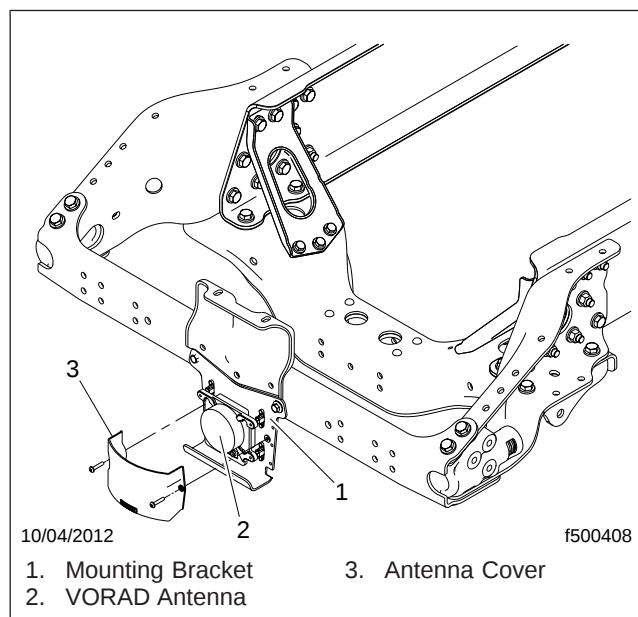

Fig. 11, VORAD Bracket and Antenna Installation
30. Install the new VORAD antenna mounting bracket. See Fig. 11.